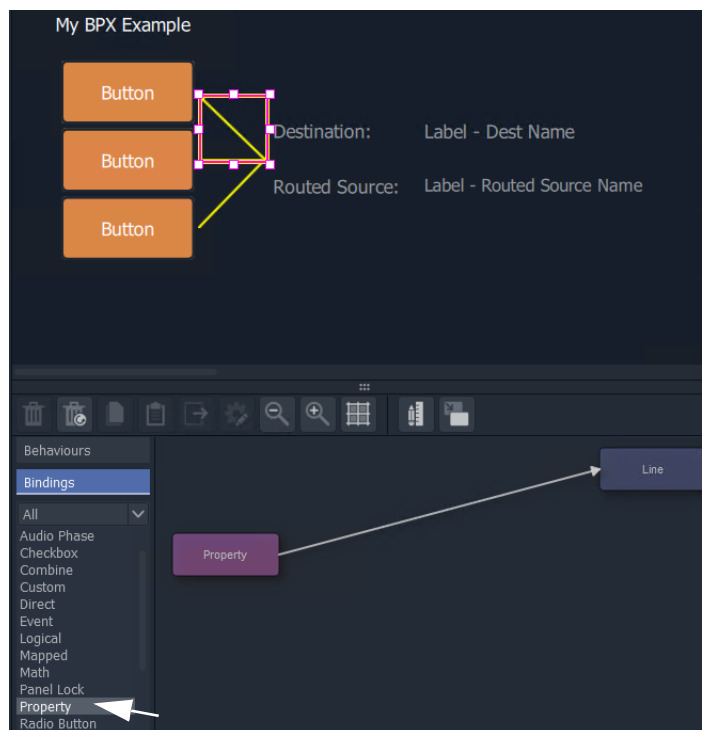

Fig. 6-61: Add Property Binding
- 4 Select the line and add a **Property** Binding. See Figure 6-61.